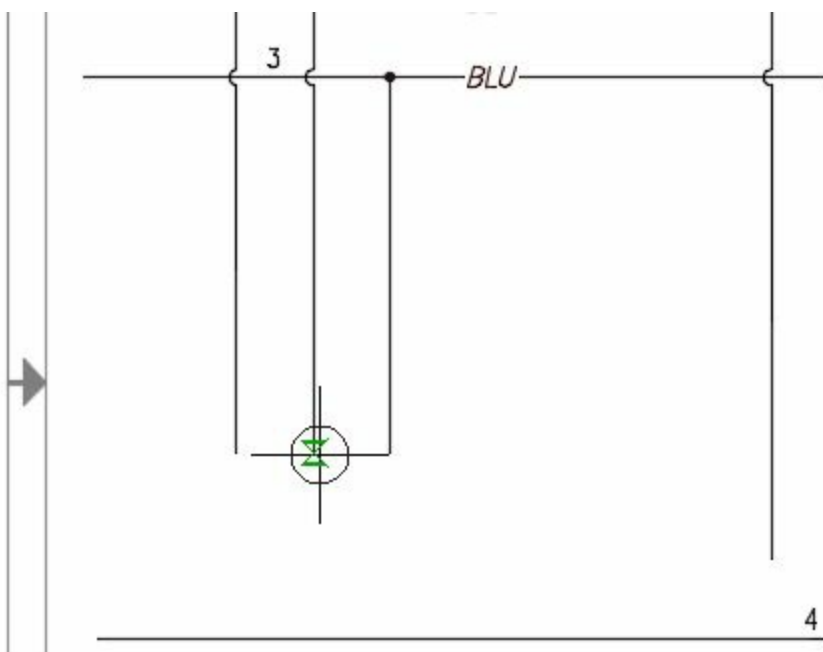

Figure-69. Motor to be placed
- Click on the middle wire as shown in Figure-69. The motor will get attached to the three wires automatically and the **Insert / Edit Component** dialog box will be displayed as shown in Figure-70.